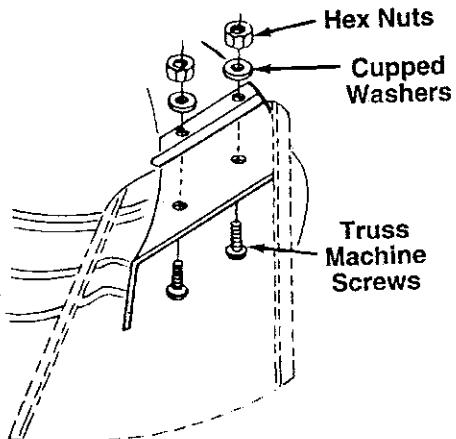

FIGURE 3
- 2 Place the chute deflector in position as shown in figure 3. Secure with truss machine screws, lockwashers and hex jam nut